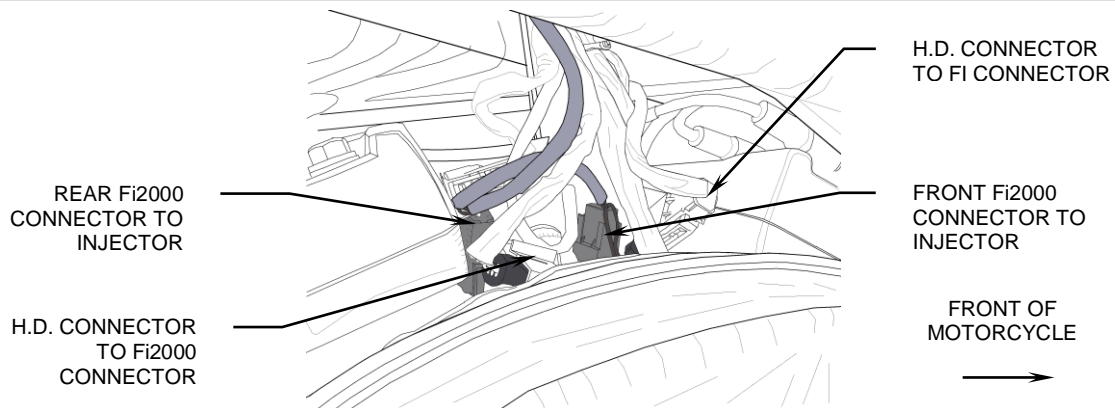

FIGURE 4
8. Locate the factory connector on each fuel injector. Depress the tab on either side of the connector and pull the connector free from the injector. Move it out of the way, see Figure 4. **Note:** A pair of needle nose pliers and a long flat blade screwdriver helps with this job.